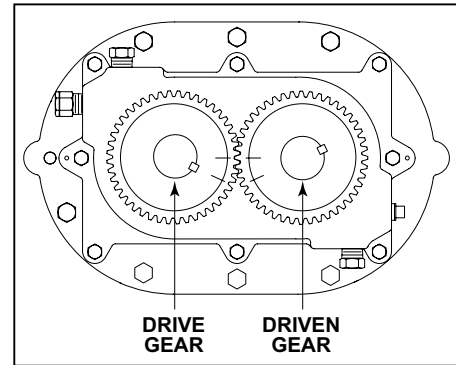

Figure 9 - Timing Marks Advanced 3 Teeth (Reference Marks Aligned)
5. Align reference marks and use puller to pull the driven gear. (Refer to Figure 9)